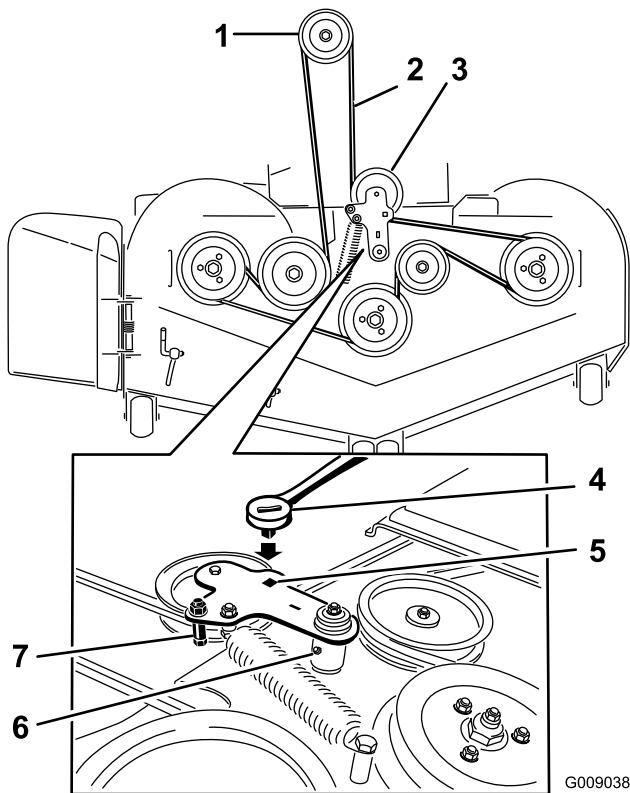

Figure 74
- Use a ratchet in the square hole in the idler arm to remove tension on the idler spring (Figure 74).
- Remove the belt guide on the spring loaded idler arm shown in Figure 74.
- Install the new belt around the mower pulleys and the clutch pulley under the engine (Figure 74).
10. Install the belt guide on the idler arm shown in Figure 74.
11. Using the ratchet in the square hole, install the idler spring (Figure 74).